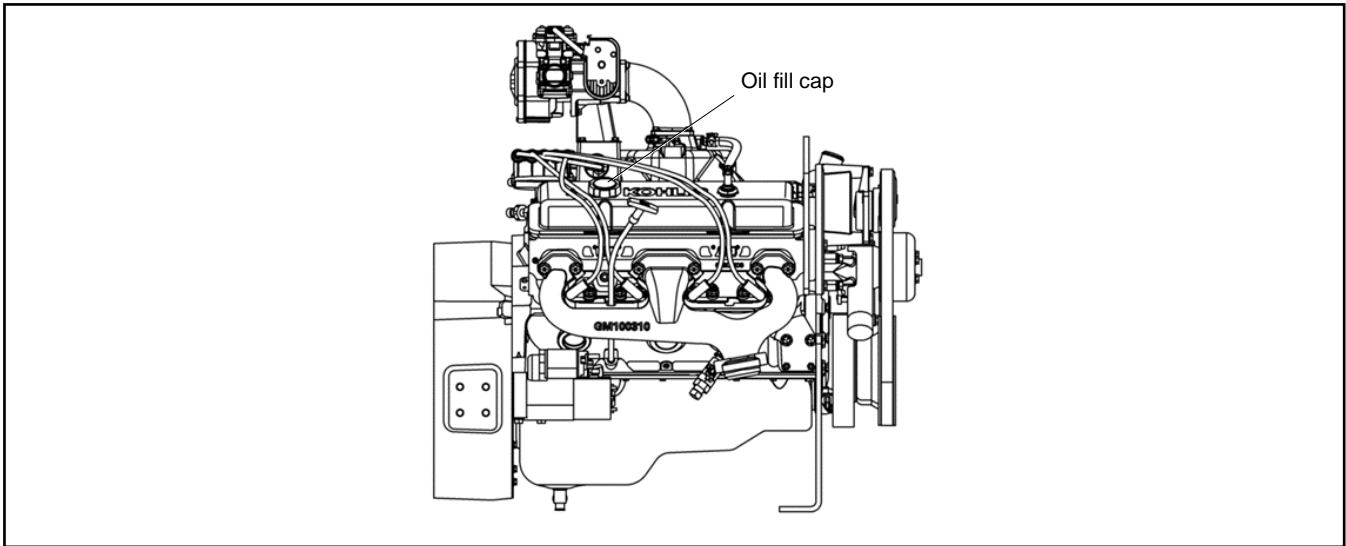

Figure 12 Oil Fill Cap
6. If the oil level is below L, check for leaks. If no leaks are found, open the oil fill cap. Wipe the oil fill cap clean, and add oil up to the Full mark. See Figure 12.